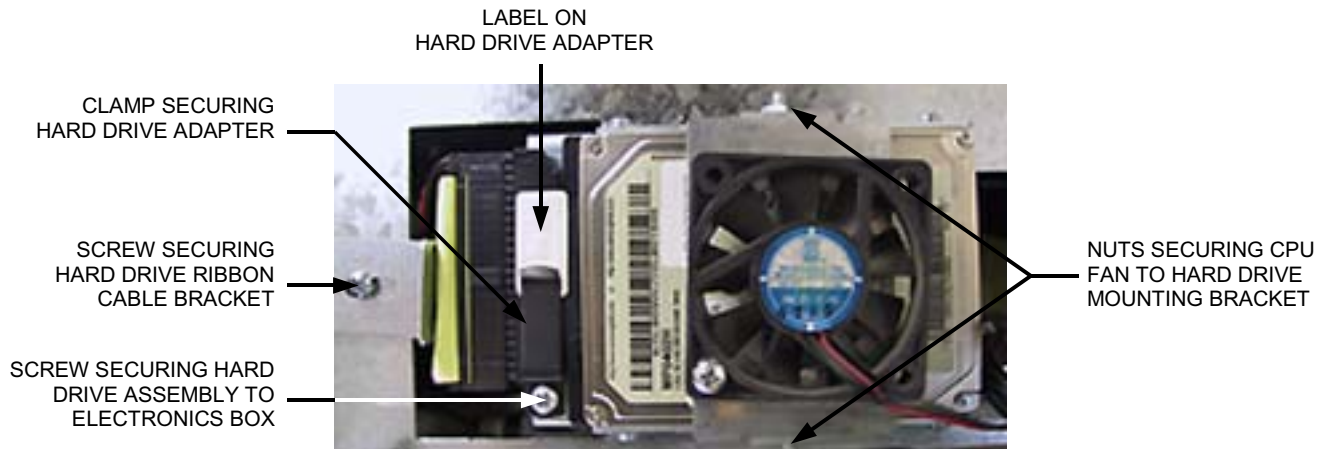

FIGURE 5 - QUICK-CLICK HARD DRIVE ASSEMBLY ON ELECTRONICS BOX
4. Loosen the screw on the hard drive support bracket and disconnect the hard drive adapter, with the attached ribbon cable, from the hard drive (see Figure 5). Then, separate the hard drive adapter from the ribbon cable and 2-pin power cable. This hard drive adapter will not be reused.
6. Separate the CPU fan mounting plate from the hard drive mounting bracket by removing the 2 nuts (see Figure 5).
1. Reattach the CPU fan mounting plate to the supplied hard drive assembly with the 2 existing nuts (see Figure 5).
2. Attach the 2-pin power cable in the game to the new hard drive adapter, which comes attached to the new hard drive. Do so by locating the two stand-alone pins on the hard drive adapter, and then sliding the 2-pin adapter onto these pins (for help, see the label on the hard drive adapter - see Figure 5). Note: The black wire on the power cord **MUST** be facing toward the label side of the hard drive adapter. Failure to do so could result in a damaged hard drive.
4. Slide the hard drive assembly into place on the electronics box cover. Align the hole in the mounting bracket with the hole on the mounting plate, then secure the supplied screw, washer, and clamp to the mounting plate (see Figure 5). The clamp should rest on the hard drive adapter, holding it in place when screwed in tightly.
5. Secure the ribbon cable in place with the hard drive support bracket and tighten the screw (see Figure 5).